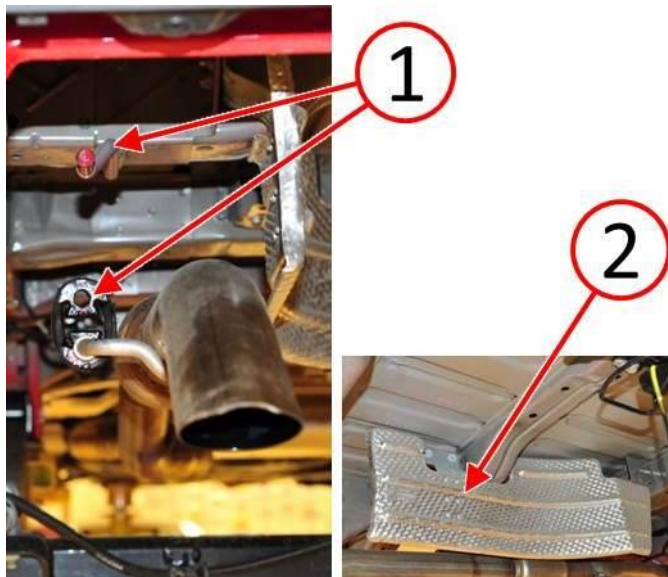

Fig. 4 Bushing Access
5. For adequate bushing access, lower the spare tire, disconnect the three rear most exhaust hangers (1), and remove the spare tire heat shield (2) (Fig. 4).